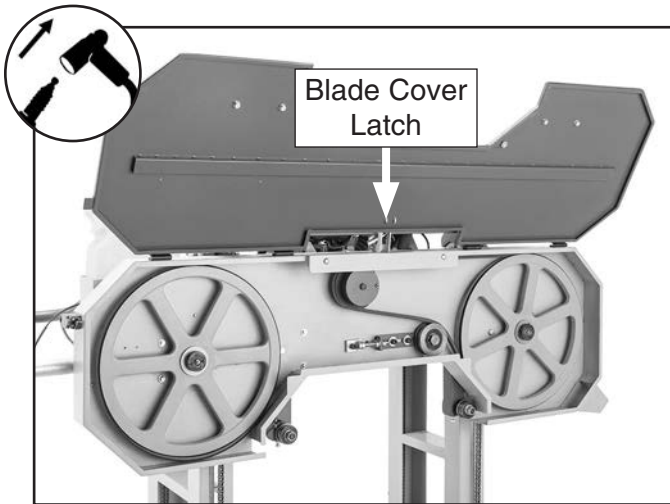

Figure 25. Blade cover supported by blade cover latch.
2. Open blade cover and support it on blade cover latch (see **Figure 25**).